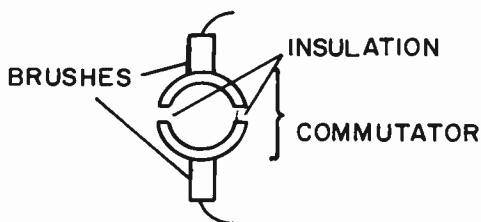

FIG. 5-3. SIDE VIEW OF A SIMPLE COMMUTATOR.
**DC GENERATORS.** A DC generator is similar to an AC generator, with the exception that the slip rings are replaced by a split ring, called a commutator. A simple commutator is shown in Fig. 5-3. The commutator segments are made of hard drawn copper and they are insulated from each other and from the armature by mica strips.